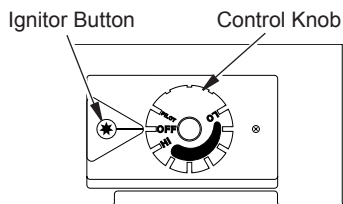

Figure 28 - Control Knob In The OFF Position
4. Wait five (5) minutes to clear out any gas. Then smell for gas, including near the floor. If you smell gas, STOP! Follow "B" in safety information, page 19. If you don't smell gas, go to next step.
5. Turn control knob counterclockwise  to PILOT position. Press in control knob for five (5) seconds (see Figure 28).